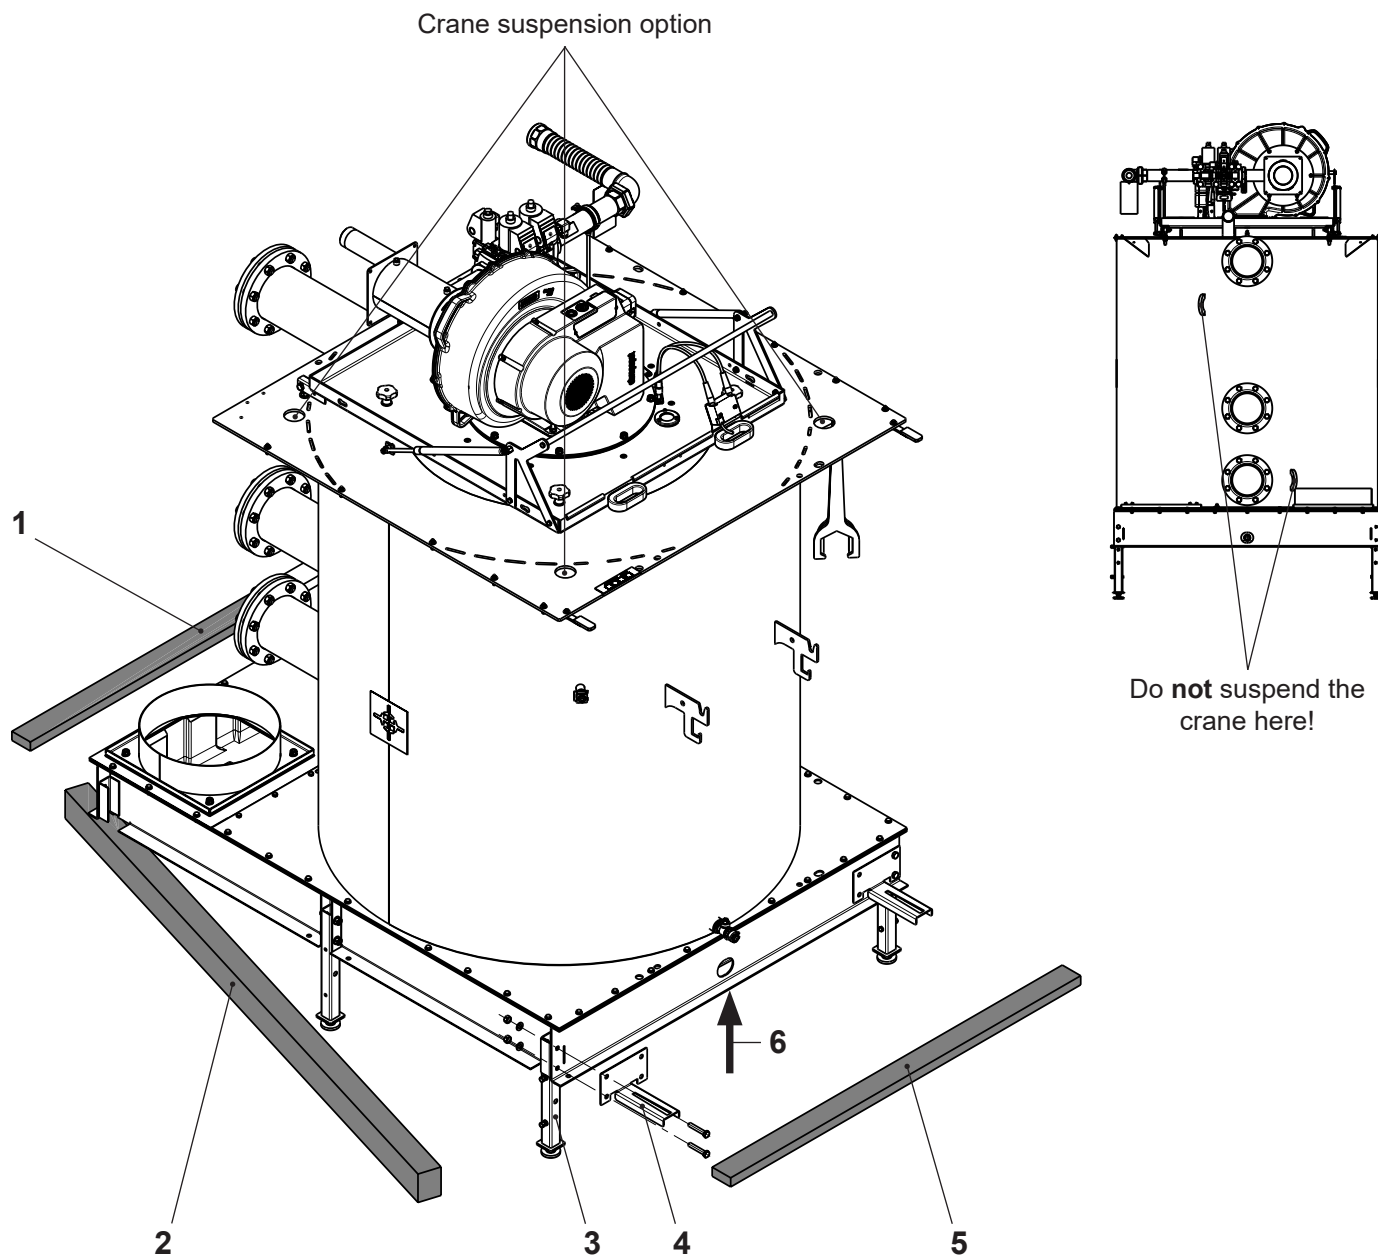

Fig. 02
The boiler must only be suspended using the four points marked as the crane suspension option in Fig. 02. The hooks on the back of the boiler must **not** be used to suspend it.
1. Remove front (5, Fig. 02) and rear (1) wooden crossbeam.
2. Using a winch (6), raise the front of the boiler.
3. Remove both side beams (2) to the front and side (see Fig. 02).
4. Push in front feet (3) and mount both front cover brackets (4).
6. Remove both side beams (2).